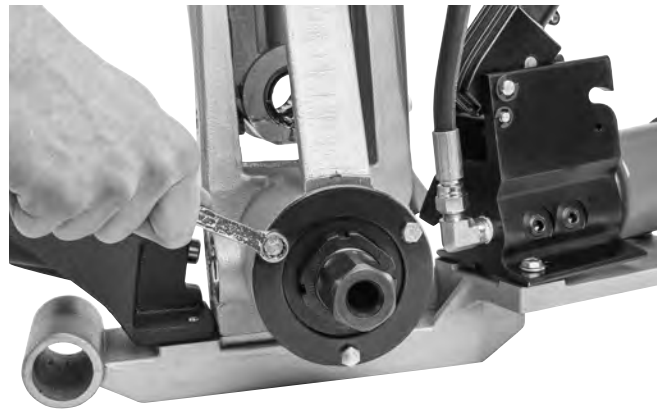

Figure 29 – Removing Retaining Plate Hex Screws
2. Remove the rear bearing retaining plate screws and the plate, *see Figure 29*.